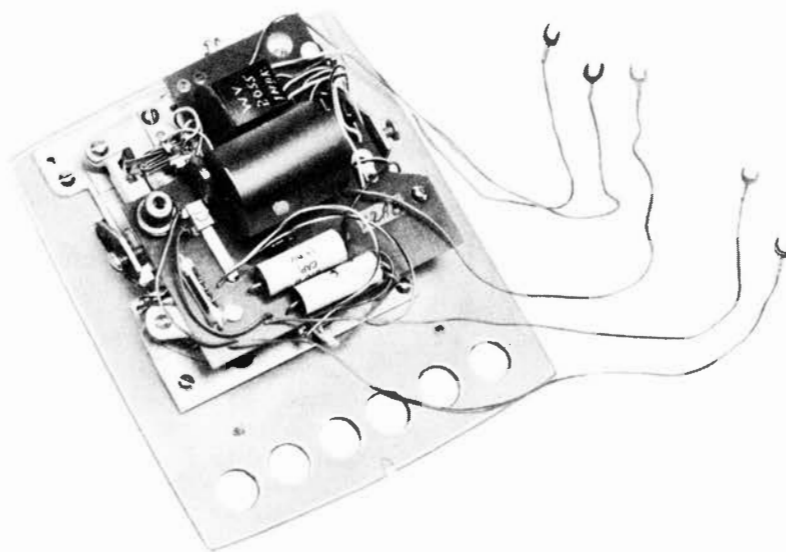

Fig. 2 - 22A Dial, Rear View
3.05 The 22A dial is equipped with a transistor-oscillator which generates the customer dialing signals. The oscillator is powered by the telephone line current. A rear view of the dial is shown in Fig. 2.